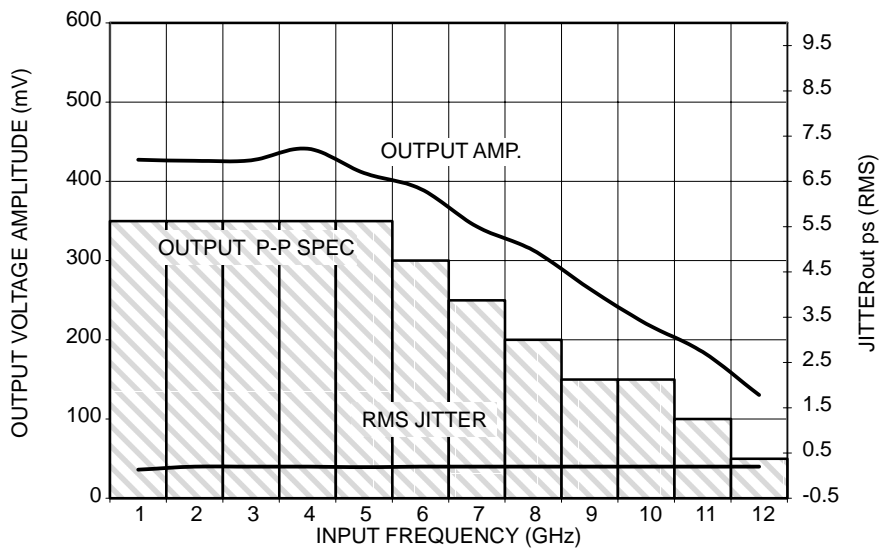

Figure 4. Output Voltage Amplitude (V_{OUTPP}) / RMS Jitter vs. Input Frequency (f_{in}) at Ambient Temperature (Typical)
23. Measured using a 500 mV source, 50% duty cycle clock source. All loading with $50\ \Omega$ to $V_{CC}-2.0\text{ V}$. For minimum f_{max} value of 10.709 GHz, output amplitude is approximately 200 mV (as shown in Figure 4, where output P-P spec is shown as a minimum/guarantee of around 150 mV). Input edge rates 40 ps (20% - 80%).
28. Measured using a 500 mV source, 50% duty cycle clock source. All loading with 50 Ω to $V_{CC}-2.0\text{ V}$. For minimum f_{max} value of 10.5 GHz, output amplitude is approximately 200 mV (as shown in Figure 4, where output P-P spec is shown as a minimum/guarantee of around 150 mV). Input edge rates 40 ps (20% - 80%).